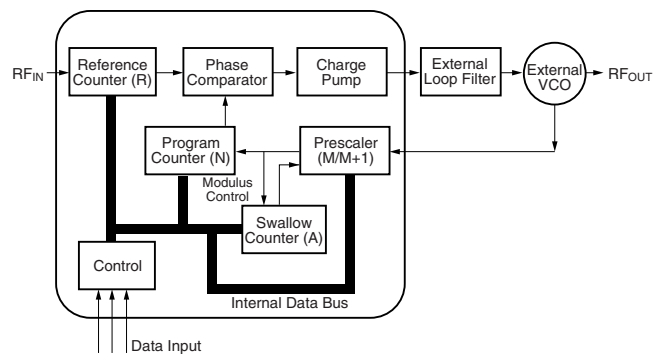

Figure 13. Swallow Counter BiCMOS PLL
Figure 13 shows the relationship among the (M+1), (M), (N), and (A) counters:
- While the swallow counter is on, the division ratio = $(M+1) * (A)$
- The total number of pulses counted during the interval N is the sum: $(M+1) * (A) + (M) * (N-A) = (N * M) + A$
Figure 13 shows the BiCMOS PLL.